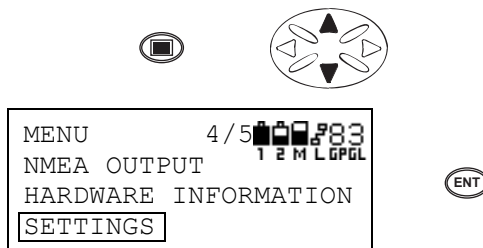

Figure 3-137. Initiate Menu Mode, Scroll to Settings, Press Enter
- Press the **menu** key to enter the menu mode. Press the **up/down cursor key** to select SETTINGS and press **ENT** (Figure 3-137).